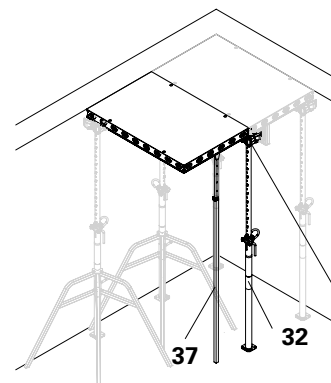
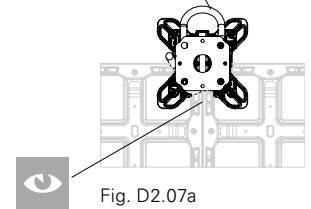

Fig. D2.07
Fig. D2.07a
3. Before compensating, hook the DFH prophead (**32**) of the last prop into the DP panel (**10**) using two teeth. Two teeth remain unused for the time being. (Fig. D2.07 + Fig. D2.07a)